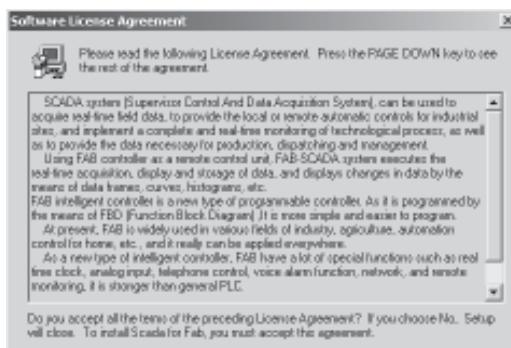
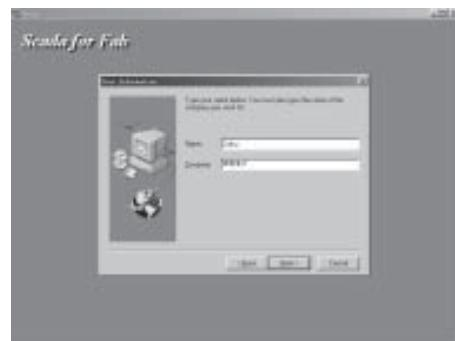

Fig. 2-2 Installation Interface 2
Fig. 2-3 Installation Interface 3
Step2. Click **Next** to continue in Fig. 2-2. Key in the users information and then click **Next** again to continue in Fig. 2-3.